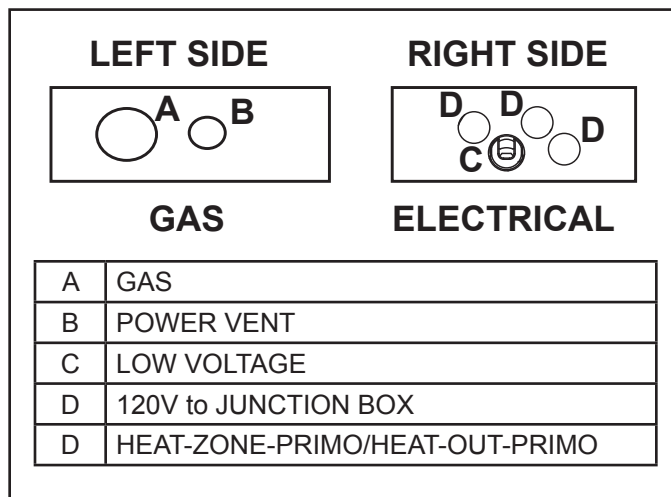

Figure 8.1 Access Plates
- See Figures 8.1, 9.7 and 9.8 for routing electrical power from the appliance to the power vent (PVI-SLP or PVLP-SLP), wall switch and PowerFlow™ Heat Management System.
2. Route the wire through the access plate using a strain relief and down through the wire slot located behind the junction box. See Figure 8.1 and 8.3.